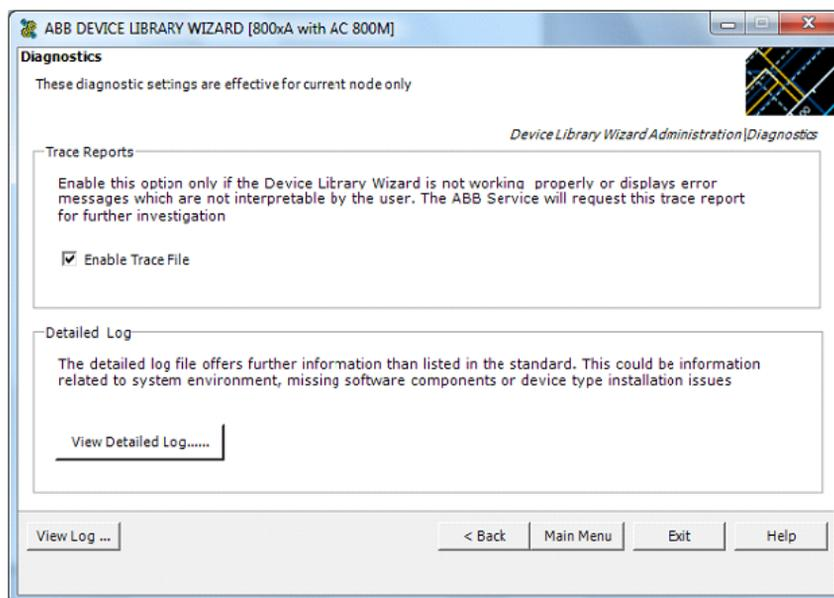

Figure 8. Enabling the Trace File
2. Select the **Enable Trace File** check box as shown in Figure 8 from the path: